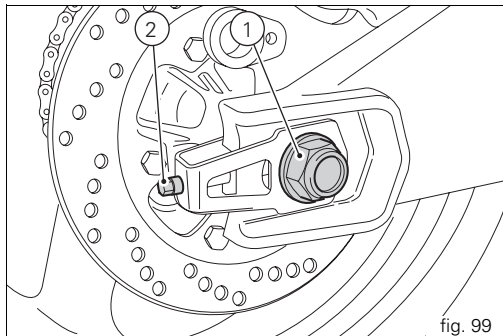

fig. 99
To adjust the tension. Loosen the axle nut (1, fig. 99) and screw in the adjuster screws (2) on both sides of the swingarm by the same amount to tighten the chain or unscrew them to slacken it. In the latter case, you will need to push the wheel forward.
It is essential for the safety of the rider and passenger that the swingarm bolts (1, fig. 99) are tightened correctly.